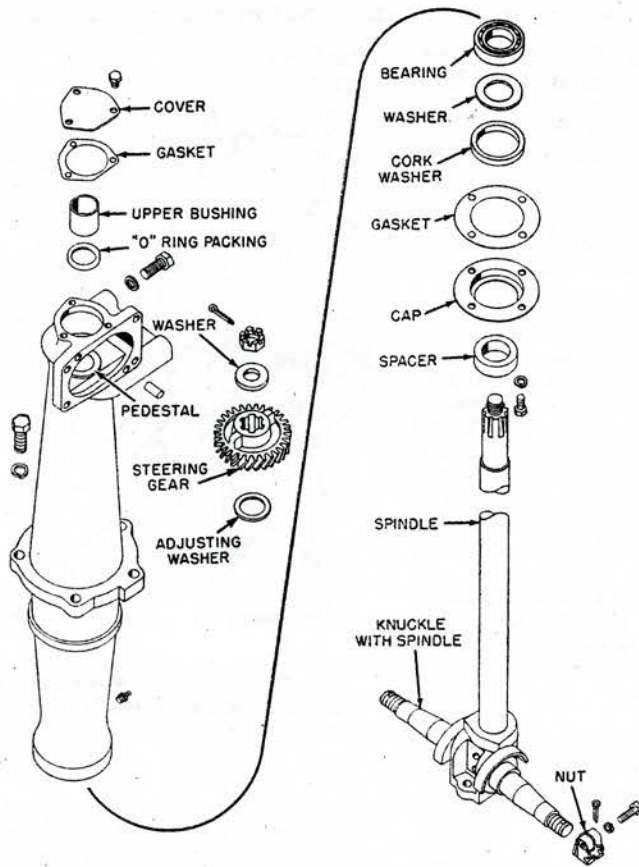

Fig. 49A Exploded view of Model 60 standard one-piece front end pedestal. Model 50 is similar
**STEERING SHAFT & PEDESTAL**—Although the following removal procedure is for the standard one-piece pedestal, it is equally applicable to the two-piece convertible pedestal, Figs. 49A and 49B.
**INSTALLATION**—Referring to Figs. 49A and 49B, install the parts in the reverse order of their removal and adjust as follows: